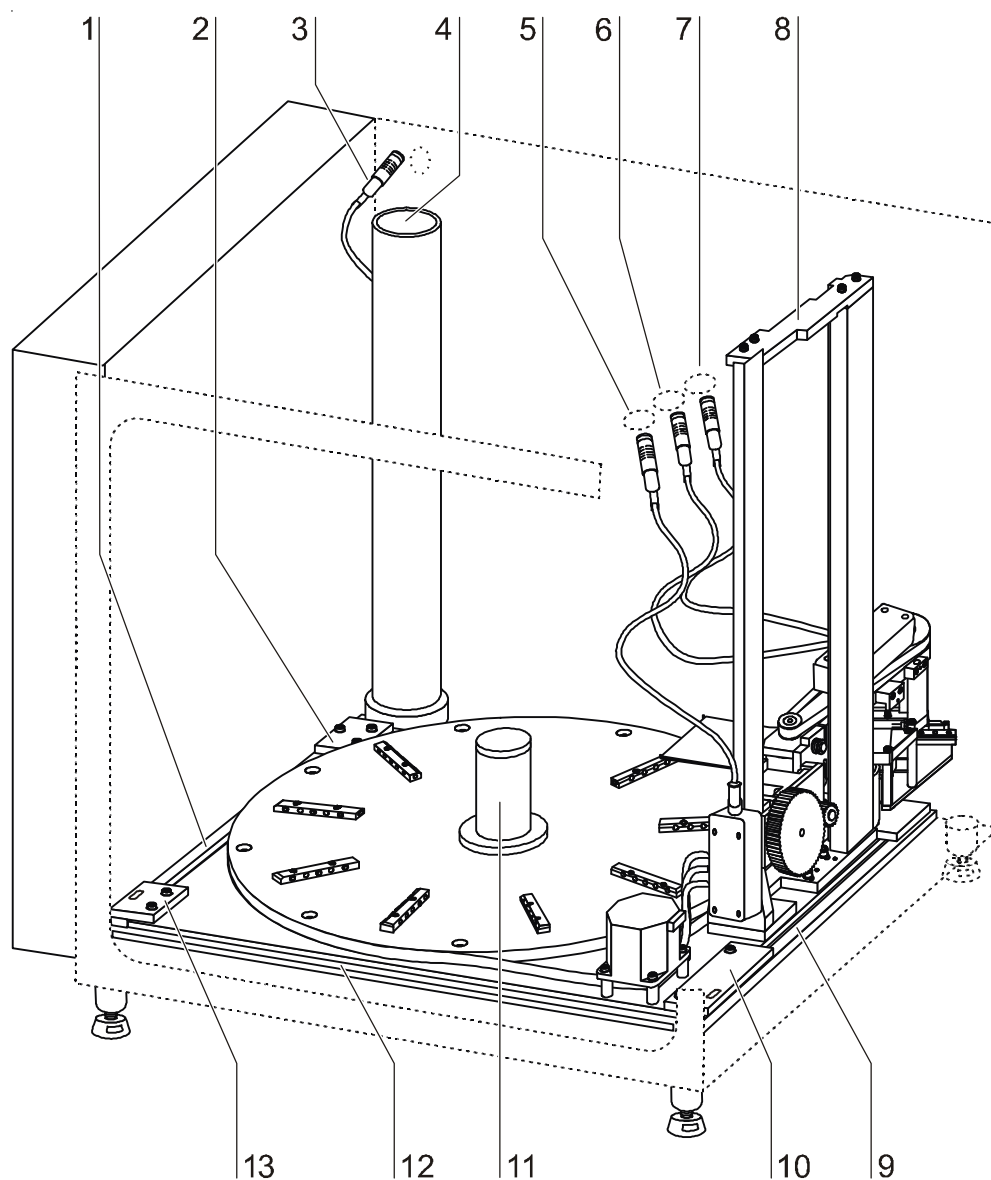

Fig. 15
1. **Fig. 15:** Disconnect the connecting cable plugs [5], [6], and [7] (optional for bar code scanner) from the sockets at the chamber ceiling and remove all filler plugs. For Cytomat® 6001, the blower motor plug [3] must be disconnected from the socket in the chamber rear panel.